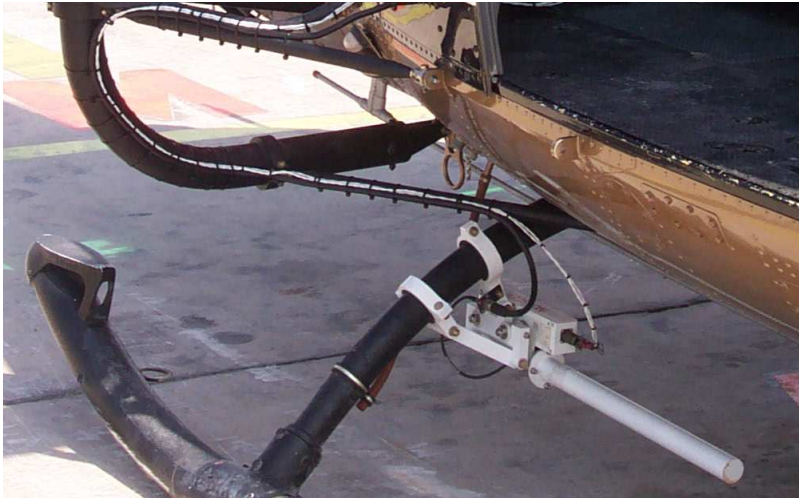

Figure 1. Cross-tube strut mount
- a cross-tube strut mount bracket assembly (Figure 1):
The cross-tube strut mount bracket assembly (Figure 1) attaches to the struts of the helicopter.